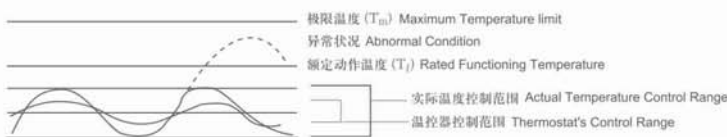

图 1 Fig.1
- 应用产品必须经过测试以确定当出现任何异常状况时都不会使温度保险丝周围温度超过极限温度（Tm），这种状况可能出现在一种称为“余热过冲”的状况下。例如：一个热风机在进风口或出风口堵塞时引起温度升高到 Tf，这时温度保险丝断开电路，但是，一个不正确的设计可能会引起装置提前开路和过度的余热过冲可能会损伤保险丝，应用产品须经测试以确定在正常的温度波动状态（如控温器的动作与复位引起的加热器温度波动）下，温度保险丝周围温度在控温器的通断循环中不会达到 Tm。（见图 1）
- The end product should be tested to ensure that potentially abnormal conditions do not exposed the thermal cutoff to the temperature exceeding its Tm. This condition may occur in an "overshoot" situation. For example, an air heater may be subjected to a blocked inlet or outlet condition on attaining its Rated functioning temperature,the thermal cutoff will open .However, an incorrect design may cause the premature opening of the device and excess overshoot may cause shooting or damage to the thermal cutoff .The end product should be tested to ensure that under normal cycling condition (such as cycling of a thermostat),the thermal cutoff never reaches its Tf during the "on" or "off" cycle.(see Fig.1)